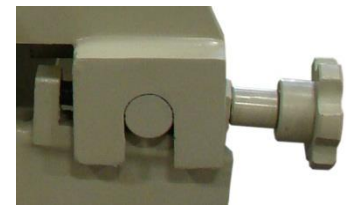

figure 19
2. Rotate the setback knobs counterclockwise (**ccw**) to move the fingers toward the edge of the clamp block or clockwise (**cw**) to move it back. (fig. 19)